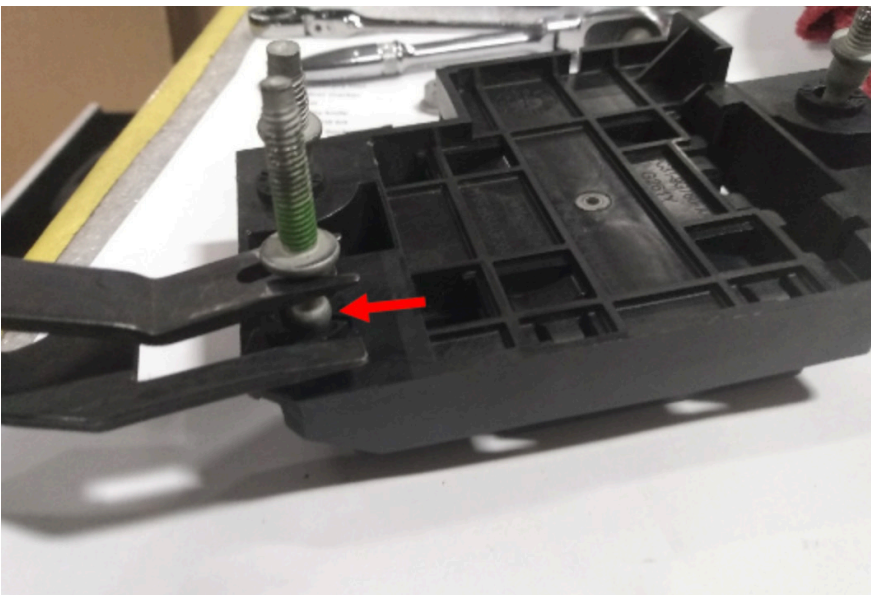

Figure 18
15. Using a panel pry tool, remove the ACC bracket mounting studs from their plastic sockets. Figure 18